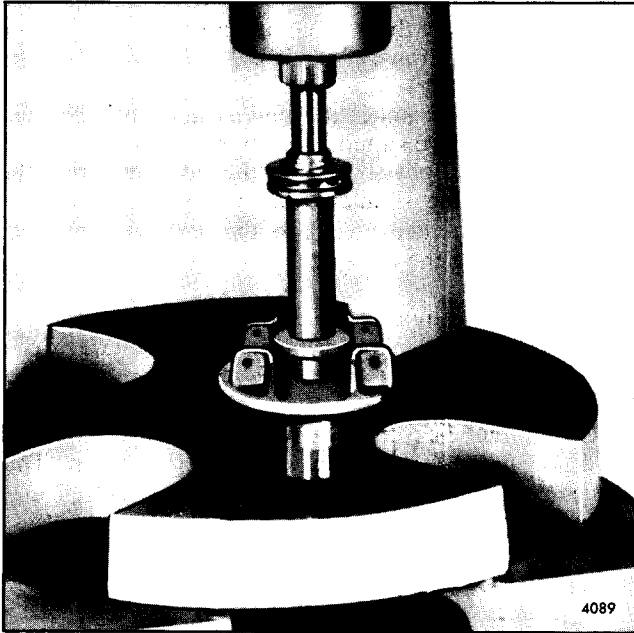

Fig. 16 - Installing Weight Carrier on Shaft using Tool J 8984
2. Use installer J 8984 as illustrated in Fig. 16 and press the shaft into the weight carrier. The tool will properly position the carrier on the shaft.